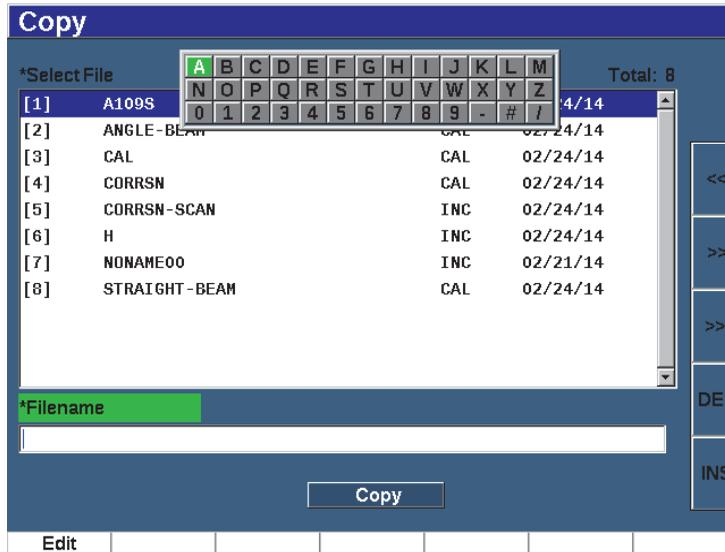

Figure 10-23 The Copy setup menu
1. Choose **Manage > Copy** (group 5/5) to display the Copy page (see Figure 10-23 on page 215).